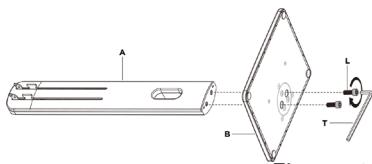

Figure 1
1. Using the **M8x20mm Screws (x2)** and the **6mm Hex Key**, fasten the **Monitor Lift Column** to **Lift Column Base** by carefully driving the **M8x20mm Screws** through each of the mounting holes on **Lift Column Base** and into the screw holes on the **Monitor Lift Column**. As shown in Figure 1.